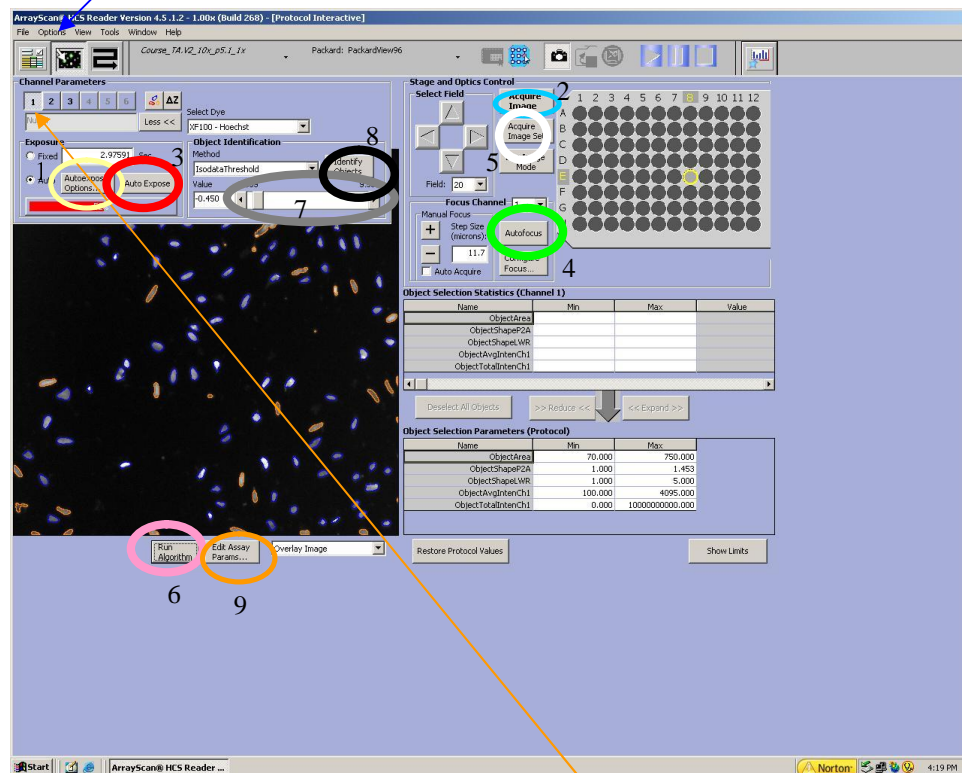
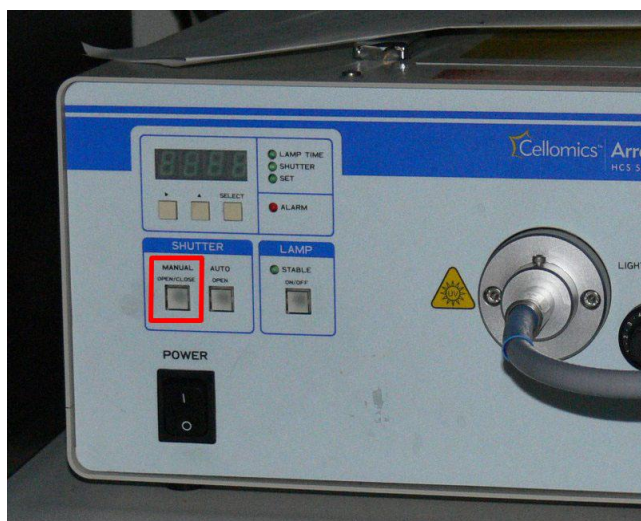

Figure 5. Protocol Interactive window.
Figure 6. The light box and the shutter button.
Select "File" -> "Save Assay Protocol" on the main menu to save your settings. Click the second leftmost icon on the tool bar. This will open the Protocol Interactive window (Fig. 5).
5. Protocol Interactive window. Make sure that channel 1 is selected in Channel Parameters. Click "Autoexpose Options" Button (yellow circle [1] in Fig. 5) and
6. Channel 1 acquisition settings. On the plate image, select E8 well by clicking on that well. Again, make sure that channel 1 is selected. Open the shutter in the light box (Fig. 6) and click "Acquire Image" button (blue circle [2] on the right in Fig. 5) for getting an image. You will probably not see much because the exposure time is not set and the image is not focused. To fix that, click "AutoExpose" button (red circle [3] in Fig. 5) on the left. Wait until the software is done or it may crash (if the software is busy, you will see an hourglass when trying to use the mouse). Then click the "AutoFocus" button (green circle [4] in Fig. 5) and again wait till the software has performed the autofocus. If the bar below AutoExpose is blue or red (= under/overexposed), click on the AutoExpose button again until the bar is green (exposure time ok). You should now see the Hoechst-stained nuclei.
8. Acquisition of an image set and setting the threshold for channel 1. Once both Hoechst and GFP channels look ok, click "Acquire Image Set" button (white circle [5] in Fig. 5) to acquire images of both channels. Then select channel "1" and click "Run Algorithm" button (pink circle [6] in Fig. 5). The algorithm (= bioapplication that you are using) will show selected objects in blue and rejected objects in orange. Selected objects are nuclei whose average fluorescence intensity (in Hoechst channel) is above the threshold, and rejected objects are nuclei whose average intensity is below the current threshold. Also, nuclei that touch the borders of the imaging area are rejected.
The aim is to have all the nuclei selected (= blue). If that is not the case, you need to lower the threshold by dragging the slide bar above the image (grey circle [7] in Fig. 5) more to the left. Every time you want to see the effect of changing the threshold value, you must click "Run Algorithm" button again. If the blue line seems to be outside the true border of the Hoechst fluorescence, the threshold is too low, and have to be increased by dragging the slide bar to the right. If there are nuclei that do not separate well or some other unsatisfactory segmentation, it can be corrected using more advanced features of the software (which will not be covered here).
- choose a cell that is very weakly positive (= low intensity), point with your finger at that cell while clicking "Identify Objects" (black circle [8] in Fig. 5)
- once you are satisfied with the threshold value, click "Edit Assay Parameters" (orange circle [9] in Fig. 5)